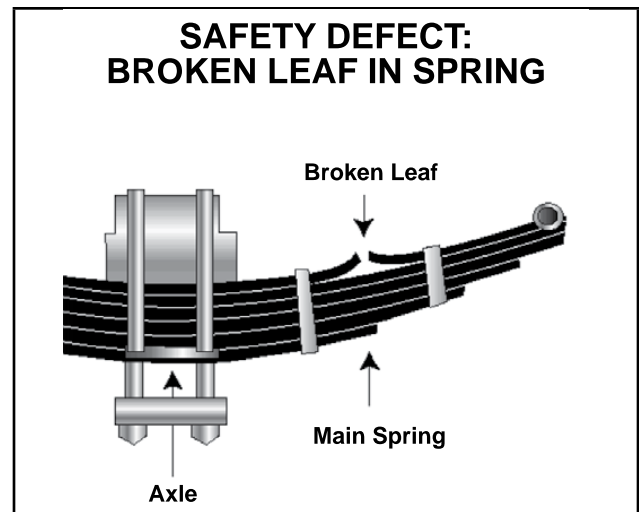

Figure 2.3
- Missing or broken leaves in any leaf spring. If 1/4 or more are missing, it will put the vehicle “out-of-service,” but any defect could be dangerous. See Figure 2.3.